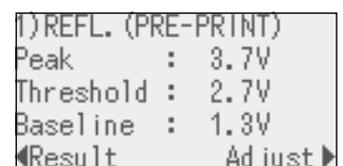

Figure 4. Calibration Results
5. Press the right key to see the details of the sensor type, peak voltage, threshold voltage and baseline voltage. **Figure 4.**